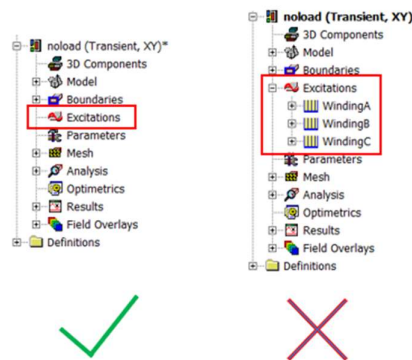

Fig. 5
- Open the *.aedt* file. **Make sure there are no items in “Excitations” (Fig. 5). Also make sure that there should be no variable named as "N" in your Maxwell 2D/3D > Design properties.**